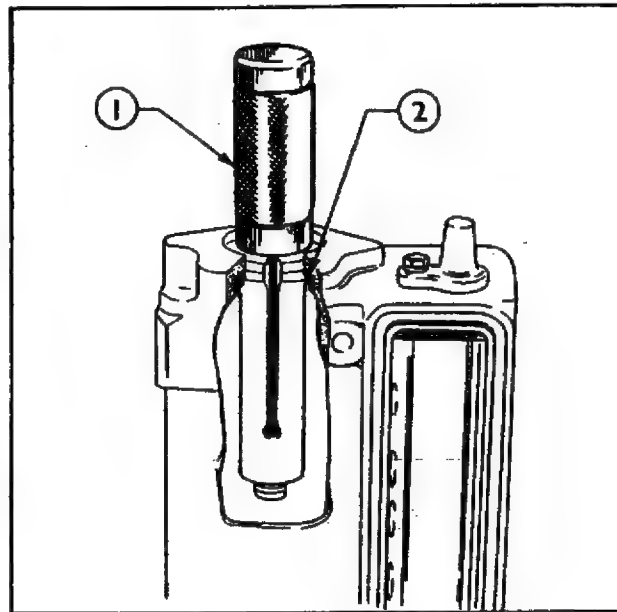

Fig. 24
30. The camshaft bearing cups can be removed by using Tool No. CT.9050 (see Fig. 24) in the following manner:—Assemble the collet of the tool from the inside of the bearing, collapsing the sprung arms of the tool so that the lip passes through and locates on the outside of the bearing cup. Screw in and fully tighten the expander from the outside of the cover plate then drive the assembly thus formed forwards out of the cover plate.